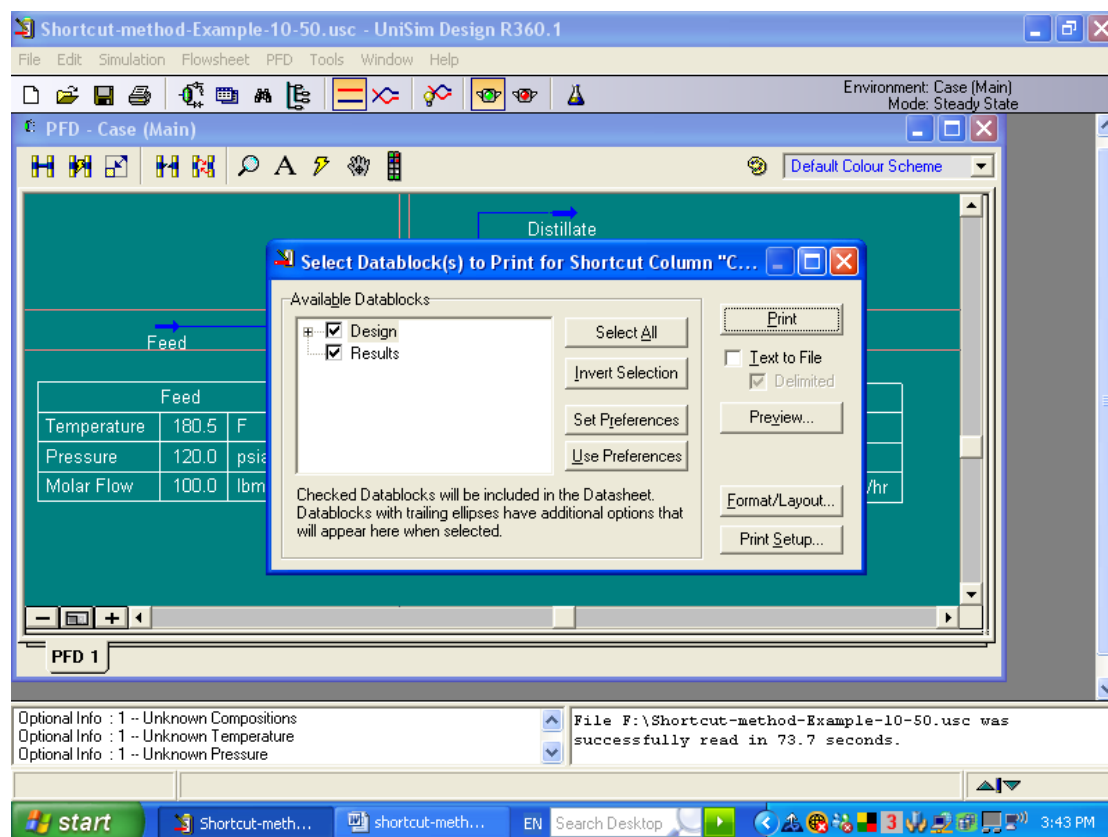

Figure K-23. Snapshot of **Select Data block(s) to Print for Shortcut Column** window.
Step 23. Click on **Print Datasheet** to display “Select Data block(s) to Print for Shortcut Column” window as shown in Figure K-23. Click on **Preview** button to view the Shortcut Column datasheet results or alternatively on **Print** button to print the hard copy of the results.